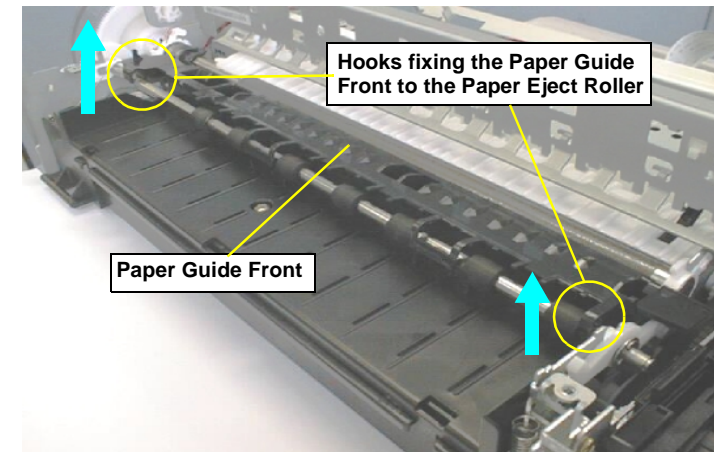

Figure 4-52. Removing the Paper Guide Front
- 12) Remove the Paper Guide Front by releasing the two hooks from the Paper Eject Roller Shaft. Refer to Figure 4-52.